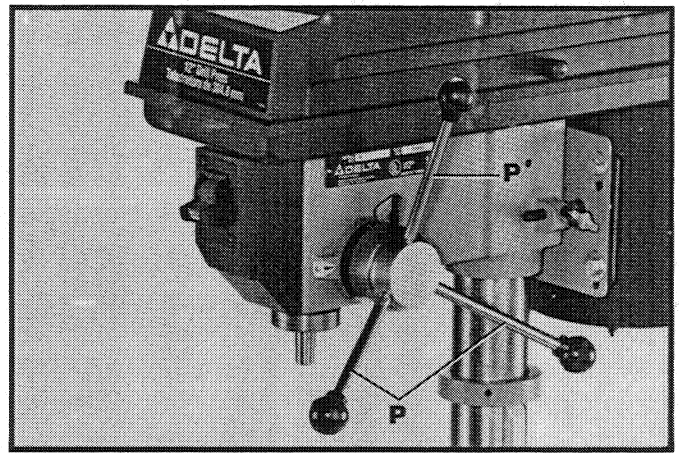

Fig. 14
10. Thread the three pinion shaft handles (P) Fig. 14, into the three tapped holes located in the pinion shaft, as shown.